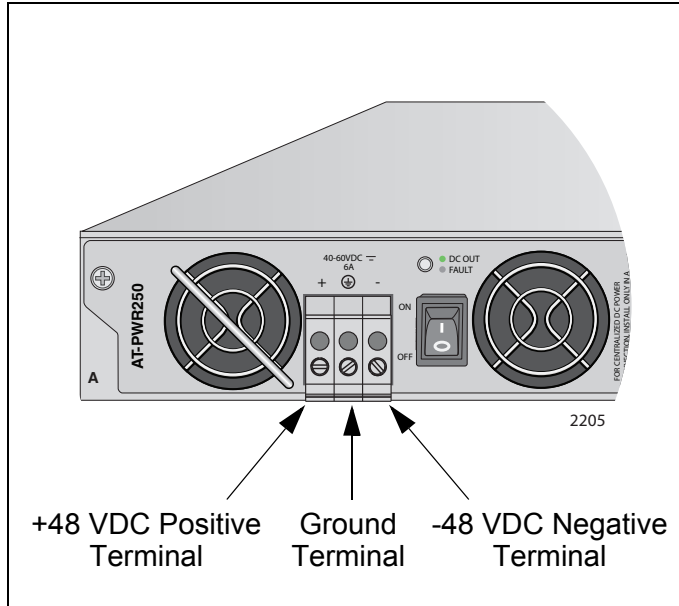

Figure 71. DC Terminal Block on the DC AT-PWR250 Power Supply Module
3. Use the legend above the terminal block to identify the terminals. The terminals are **positive**, **power supply ground** and **negative**, from left to right, as shown in Figure 71 on page 104.